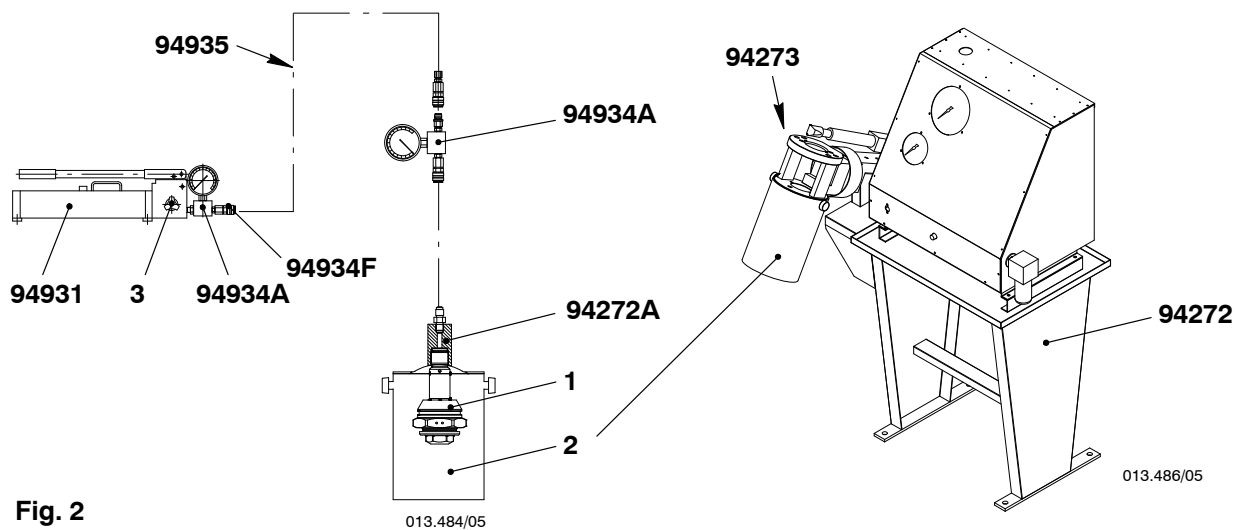

Fig. 2
- 1) Put the relief valve (1, Fig. 2) in the valve holder (94272A).
- 2) Tighten the relief valve (1).
- 4) Close the valve (3).